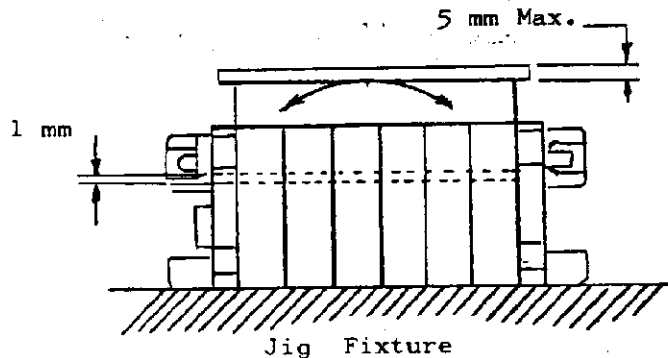

Fig. 2
Tightly secure a block assembly on a sturdy test bench as shown in Fig. 2, and mate a contact-loaded plug housing. "Kojiri" testing is performed by applying torque force of 20kg. cm(T) to plug housing in reciprocated cycles to force in right-left direction at every depth of 1 mm graduation along the extraction stroke, until the connector halves are completely separated. Making one separation a cycle, repeat 10 cycles of "Kojiri" twisting and bending motion to the sample connectors.